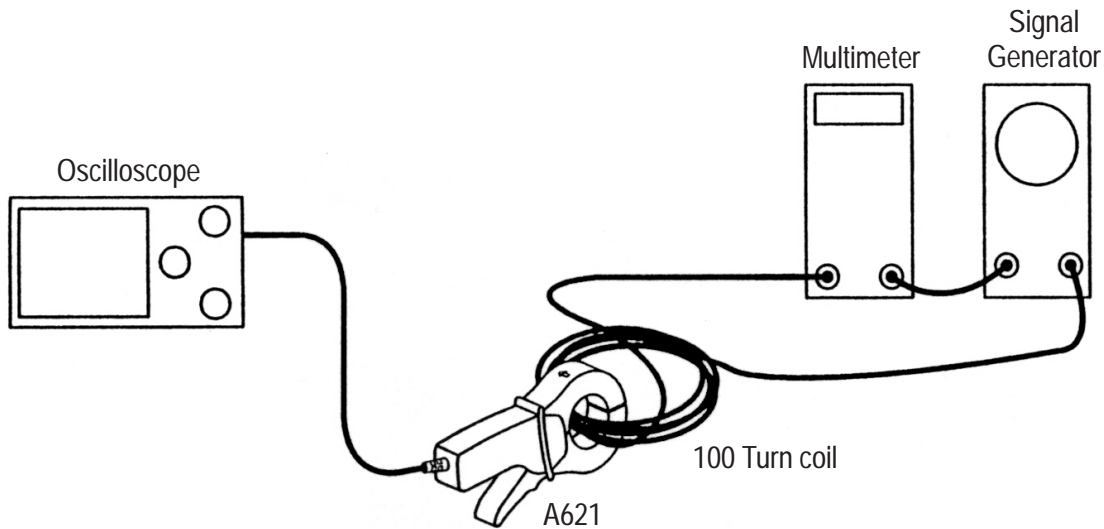

Figure 5: Setup for Maximum Input Current and Accuracy Checks
1. Connect the 100 turn current loop, the multimeter current inputs, and the signal generator output in series, using the patch cords and adapter. Set the multimeter to display  $AC_{RMS}$  current. See Figure 5.